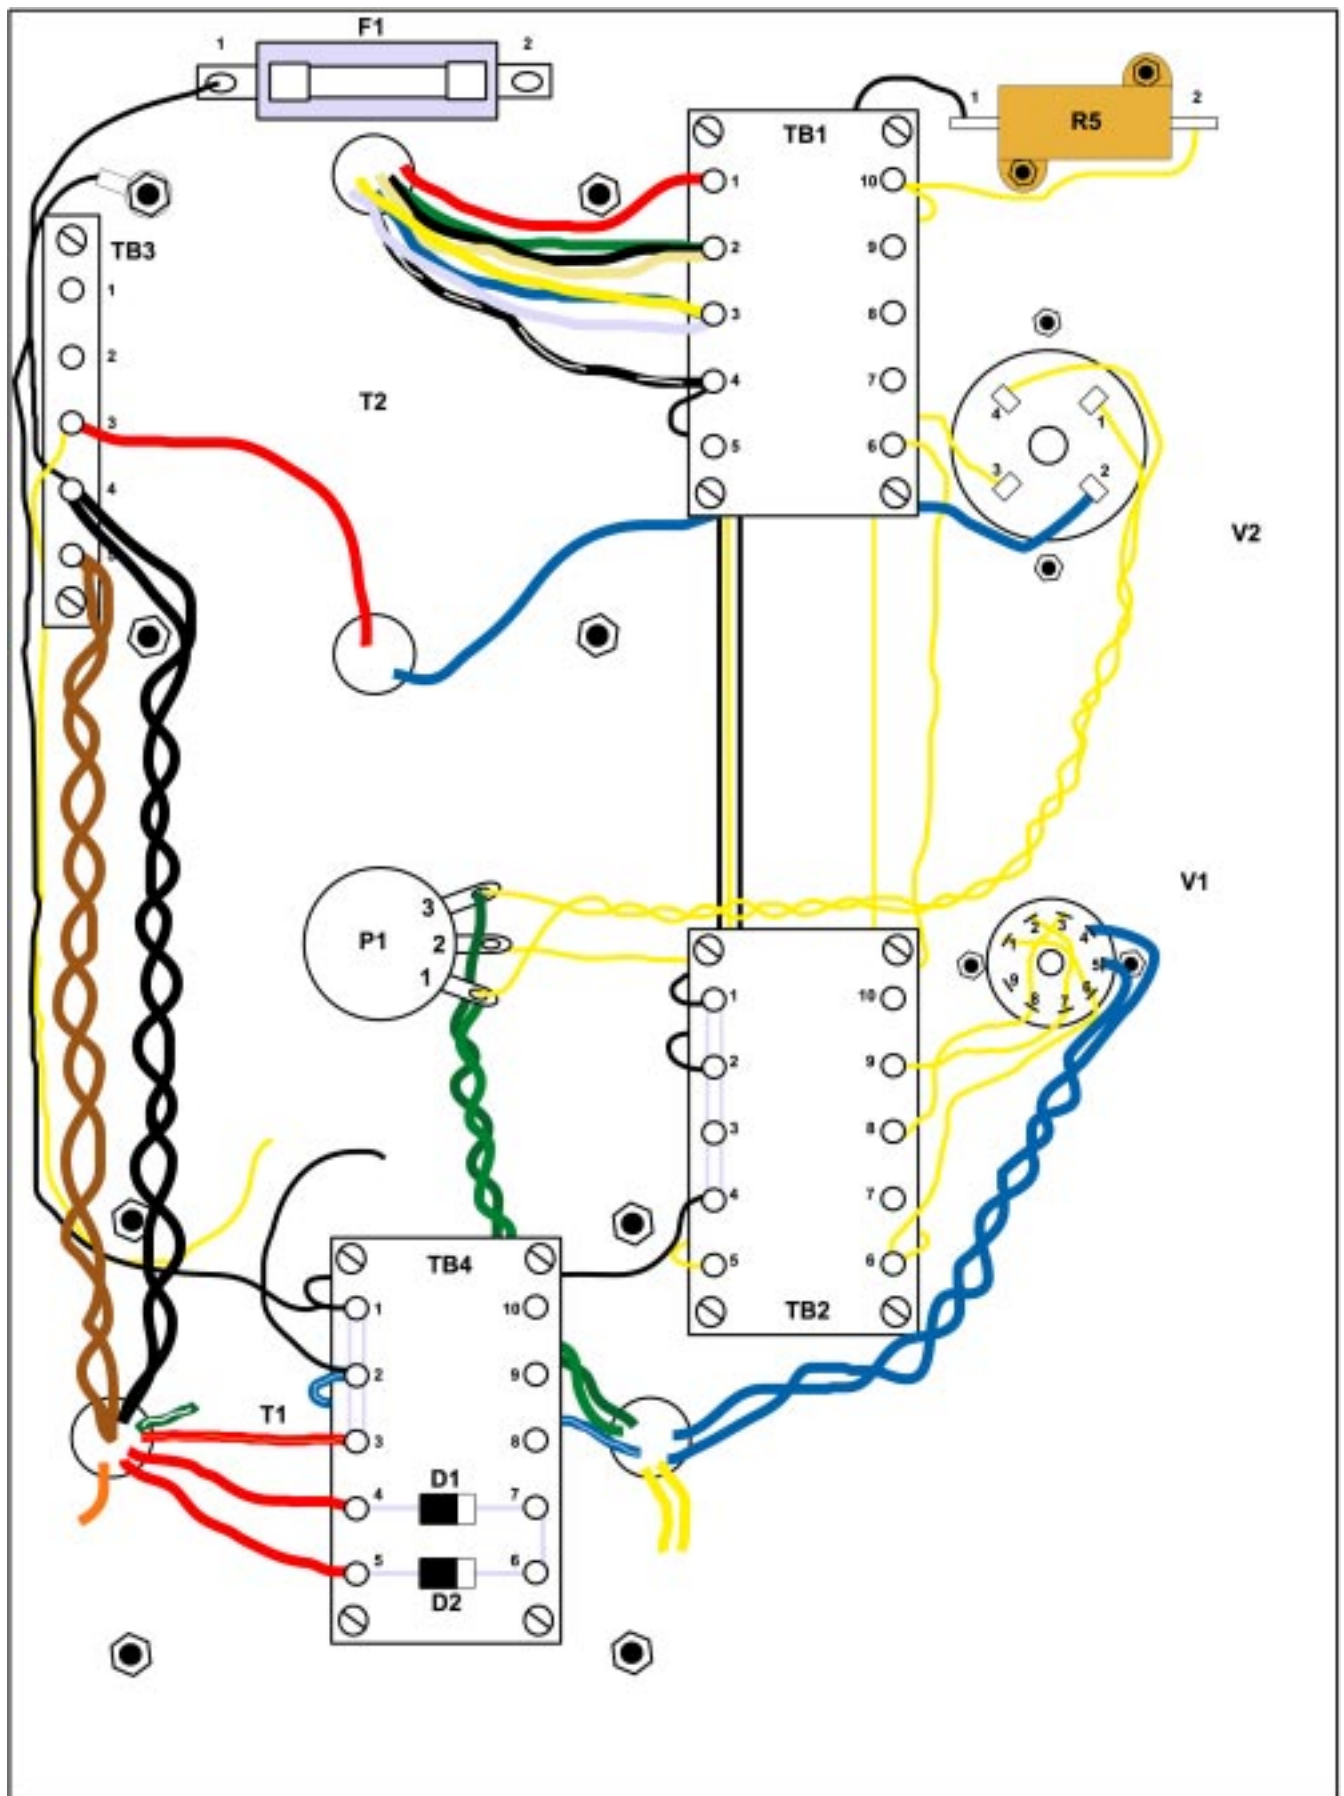

Figure 4
6) Locate the bag marked "D1, D2" and mount these diodes as shown in figure 4. Note: these diodes have polarity and are identified by the white band on one end. Diode D1 is soldered between TB4-4 and TB4-7. Solder diode D2 between TB4-5 and TB4-6 but leave enough lead wire on the diode to wrap around terminal TB4-6 and solder to TB4-7 as shown in figure 4.
Cut a piece of the black hookup wire to length and solder one end to TB4-1 and the other end to TB2-4. Route the wire under TB4 as shown in figure 4.
Locate the bag marked "H/W1" and remove one ring terminal, a star washer and a brass nut. Cut a piece of the black wire to a length of approximately 10 inches. Solder one end of this wire to TB4-1 as shown in figure 4. Trim the wire to length and solder the ring terminal to the other end of this wire. You will now attach this ring to the transformer bolt as shown in figure 4. First remove the nut that secures the transformer mounting bolt. Install the star washer onto the bolt and then re-install the nut and tighten securely so that the star washer digs into the bottom of the aluminum plate. Now place the ring terminal onto the bolt and secure with the brass nut. Just finger tighten this nut for the time being. The ring terminal should now be sandwiched between the two brass nuts.
Cut a piece of the black hookup wire to length and solder one end to TB3-4 and the other end to F1-1 as shown in figure 4.
Cut a piece of the black hookup wire to length and solder one end to TB1-4 and the other end to TB2-2. Route the wire under terminal board TB1 as shown in figure 4.
Cut a piece of the black hookup wire to length and solder one end to R5-1 and the other end to TB2-1. Route the wire under terminal board TB1 as shown in figure 4.
Cut a piece of the yellow hookup wire to length and solder one end to P1-2 and the other end to TB1-6. Route the wire as shown in figure 4.
Cut two pieces of yellow hookup wire to length, solder one wire to P1-1 and the other wire to P1-3. Twist them together, route as shown in figure 4 and solder the other ends of these wires to V2-1 and to V2-4.
Cut a piece of the yellow hookup wire to length and solder one end to TB1-10 and the other end to TB2-5. Route the wire under terminal boards TB1 and TB2 as shown in figure 4.
Cut a piece of the yellow hookup wire to length and solder one end to R5-2 and the other end to TB1-10. Route the wire as shown in figure 4.
Cut a piece of the yellow hookup wire to length and solder one end to V2-3 and the other end to TB2-6. Route the wire under terminal boards TB1 and TB2 as shown in figure 4.
Cut a piece of the yellow hookup wire to length and solder one end to V1-8 and the other end to TB2-8. Route the wire as shown in figure 4.
Cut a piece of the yellow hookup wire to length and solder one end to V1-7 and the other end to TB2-9. Route the wire as shown in figure 4.
Cut a piece of the yellow hookup wire to length and solder one end to V1-6 and the other end to TB2-6. Route the wire as shown in figure 4.
Cut a piece of the yellow hookup wire to length of approximately 9 inches and solder one end to TB3-3. Route the wire as shown in figure 4 leaving the other end unterminated at this time.